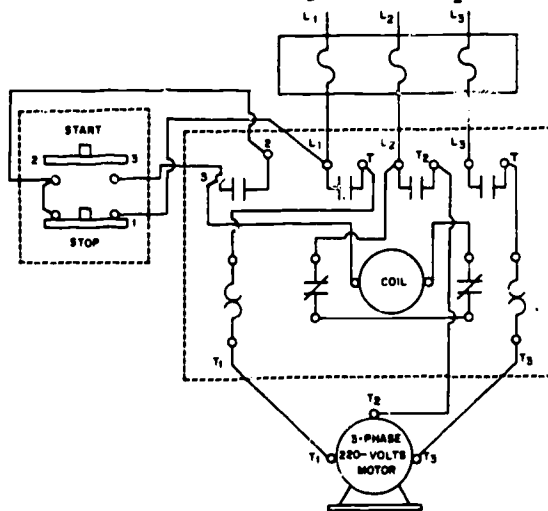

Figure 43. Wiring diagram of a Square-D Magnetic Starter Connected to a Start-Stop Station
Connecting three-phase controllers vary only in the location of the terminals and when the controllers are to serve different duties. Figure 43 shows a square D magnetic starter and a start-stop station controlling a three-phase motor.
In order for the motor to operate, three sets of normally open contacts (main contacts) must close. These contacts are located between the line and the load (L_1 & T_1 , L_2 & T_2 , and L_3 & T_3). To close these contacts, the coil must be energized. This is done through a circuit known as the control circuit. The control circuit runs from terminal L_2 through the two reset contacts (normally closed contacts) through the coil and to terminal three (3) on a set of holding contacts. To have a complete circuit to energize the coil, the control circuit must make connection to L_1 . This point is where the different types of controlling takes place. As in Figure 43, terminal three (3) of the magnetic starter is connected to terminal three (3) of the start-stop station. When the start button is pushed, a circuit is completed from terminal three (3) through the start contacts to terminal two of the start-stop station, through the stop button to terminal one (1) and to terminal L_1 of the magnetic starter. A circuit is now completed between L_1 and L_2 , and the coil becomes energized. When the coil energizes, the armature is lifted causing all normally open contacts to close. The circuit is now complete to the motor. The circuit from terminal three (3) of the magnetic starter to L_1 is known as the start circuit. The start button on a start-stop is a constant pressure switch, meaning it must be held in to keep the contacts closed. If pressure is removed, the circuit would be broken and the coil would become de-energized. To prevent this from happening, another circuit called a holding circuit is added. The holding circuit is connected from terminal two (2) of the magnetic starter to terminal two (2) of the start-stop station. When the coil becomes energized, it closes all normally open contacts, including a set of holding contacts located between terminals two (2) and three (3) of the magnetic starter. When these contacts close, a circuit is completed from terminal three (3) through the holding contacts to terminal two (2), to terminal two (2) of the start-stop station, through the stop button contacts to terminal one (1) to L_1 . When the start button is released, this circuit is used to keep the coil energized. To de-energize the coil, pressure is applied to the stop button which causes its normally closed contacts to open breaking the circuit, de-energizing the coil. Should the motor draw more current than is specified on the data plate, the overcurrent relays will heat and open the normally closed contacts (reset contacts) in the control circuit, which will de-energize the coil. This provides motor protection.